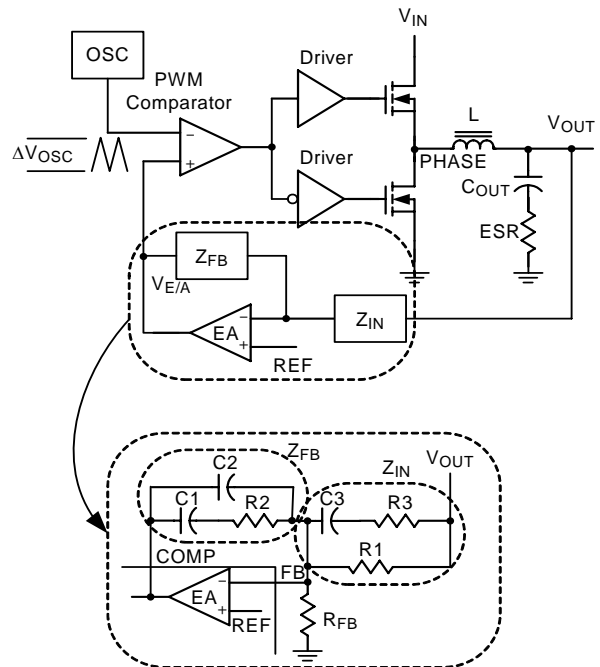
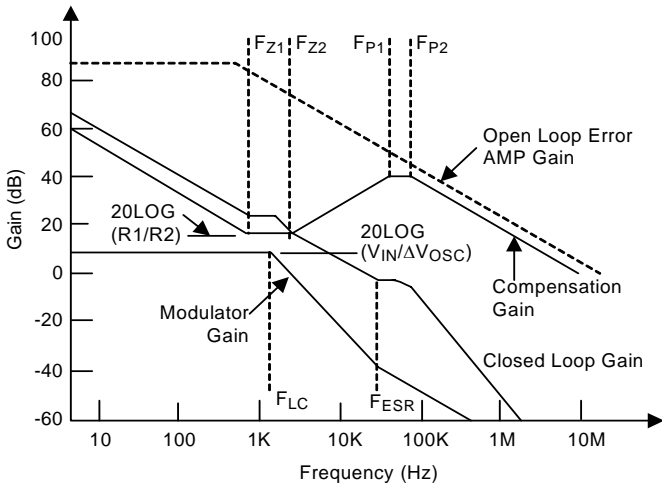

Figure 7
Figure 8
Figure 7 highlights the voltage-mode control loop for a synchronous buck converter. Figure 8 shows the corresponding Bode plot. The output voltage (V_{OUT}) is regulated to the reference voltage. The error amplifier EA output (COMP) is compared with the oscillator (OSC) sawtooth wave to provide a pulse-width modulated (PWM) wave with an amplitude of V_{IN} at the PHASE node. The PWM wave is smoothed by the output filter (L and C_{OUT}). The modulator transfer function is the small-signal transfer function of $V_{OUT}/COMP$. This function is dominated by a DC gain and the output filter (L and C_{OUT}), with a double pole break frequency at F_{P_LC} and a zero at F_{Z_ESR} . The DC gain of the modulator is simply the input voltage (V_{IN}) divided by the peak-to-peak oscillator voltage ΔV_{OSC} . The break frequency F_{LC} and F_{ESR} are expressed as Equation (1) and (2) respectively.
The compensation network consists of the error amplifier EA and the impedance networks Z_{IN} and Z_{FB} . The goal of the compensation network is to provide a closed loop transfer function with the highest DC gain, the highest 0dB crossing frequency (FC) and adequate phase margin. Typically, FC in range 1/5 to 1/10 of switching frequency is adequate. Higher FC will cause faster dynamic response. A phase margin in the range of 45°C to 60°C is desirable. The equations below relate the compensation network poles, zeros and gain to the components (R_1 , R_2 , R_3 , C_1 , C_2 , and C_3) in Figure 7.